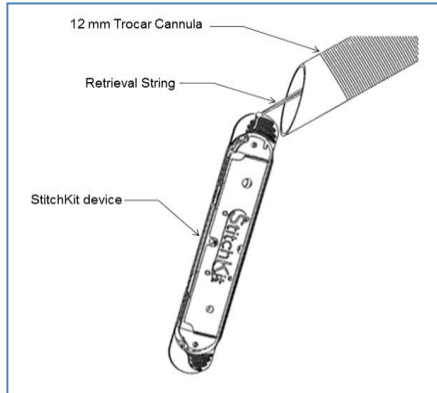

Figure 6 - Pulling out device through trocar using retrieval string
7.3. The device can then be pulled out from the body through the trocar. See Figure 6.